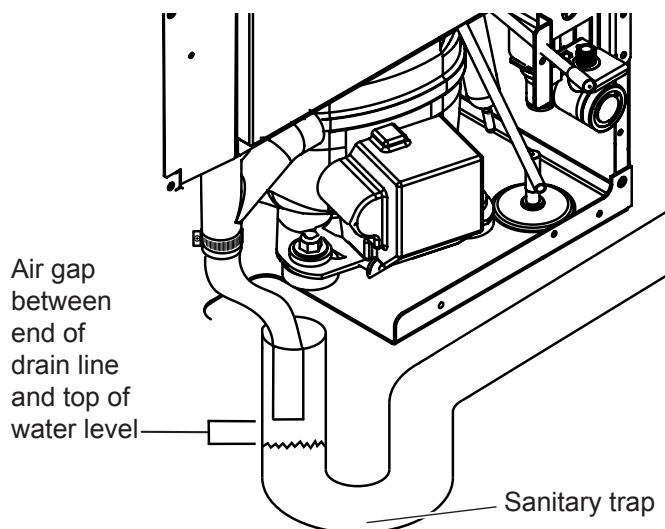

Figure 13: Example of an open drain.
- b. Your drain line is plumbed into an open drain (Figure 13).